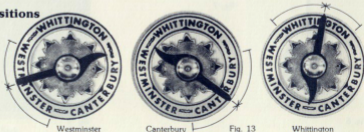

Fig. 13
Push strike silent lever up to strike position (Fig. 11). Turn chime indicator counterclockwise to chime (Fig. 12). Select chime (Fig. 13). Insert winding key in arbors (Fig. 14) and wind weights until top of weights are even with top of door opening. Check cable to see that it tracks properly in the winding drum grooves (Fig. 15). Swing pendulum gently to the left and let go. Listen to the beat. It should have an even, regulated tick and swing evenly in both directions. Rarely does a tubular bell clock arrive out of beat. If it needs adjusting, however, loosen the beat adjusting nut (Fig. 16, A) and move the beat adjusting disc (B) either left or right (using trial and error method) until the beat becomes regular. Tighten nut.